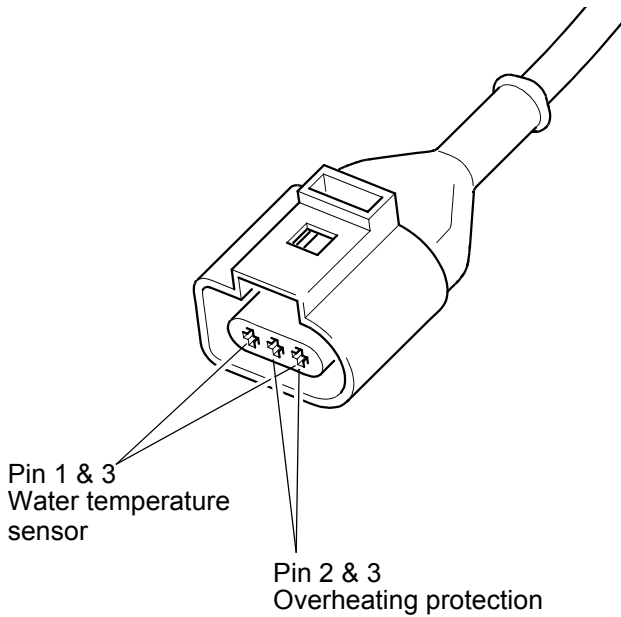

Fig. 502
- The electrical resistance between pin 1 and pin 3 (see Fig. 502) is at 0°C 500 Ohm, between pin 2 and pin 3 2000 Ohm. Both resistances change depending on temperature. The ratio should be at tempered through sensor 1:4.